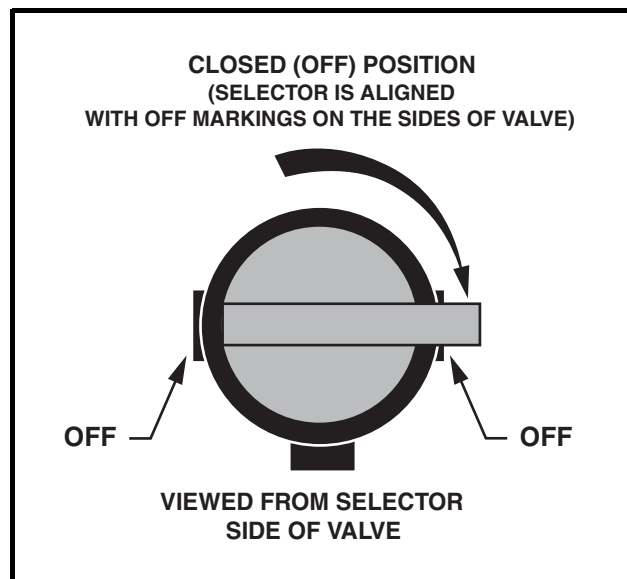

Figure 12 Fuel Shut-off Valve – Closed Position
2. Turn the key switch to the OFF position and place the Forward/Reverse handle in the NEUTRAL position. Remove the key and turn the fuel shut-off valve to the closed (OFF) position when the vehicle is not in use (**Figure 12, Page 24**). See also **Figure 24 on page 34**.
- Turn the fuel shut-off valve to the closed (OFF) position (Figure 12).
- Turn the fuel shut-off valve to the closed (OFF) position (Figure 12, Page 24).